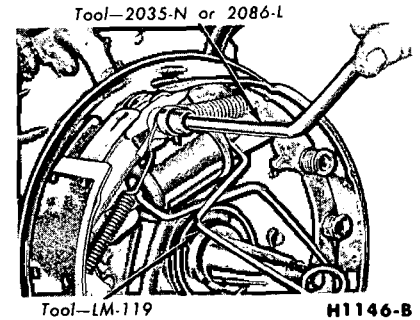

FIG. 14—Retracting Spring Removal —Typical
1. With the wheel and drum removed, install a clamp over the ends of the wheel cylinder as shown in Fig. 14.
2. Remove the brake retracting springs using Tool 2035-N or 2086-L (Fig. 14).